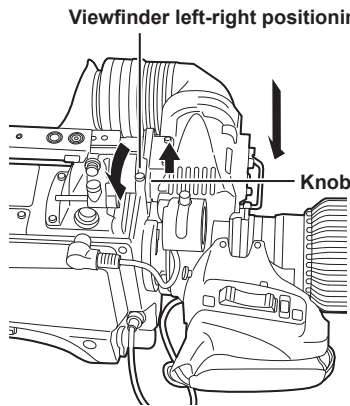

Fig. 1
- 2** Pull up the knob on the mounting plate and slide the plate to attach the viewfinder. (Fig. 1)